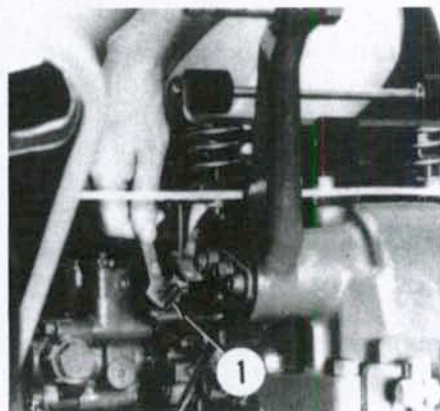

Fig. 160—Exploded view of typical hydraulic pump used on Models L185, L235, L245, L285 and L295.
To disassemble pump, remove retaining nut and drive gear on Models L185 and L245. On all models, scribe a match mark across end cover and pump body to ensure correct reassembly. Remove end cover mounting screws, then carefully separate cover and components as shown in Fig. 160. Be sure to identify location of bushings (5) and driven gear (7) so they can be reinstalled in their original positions. Bushings should not be interchanged. Remove oil seal (2) from pump body and discard all seal rings.